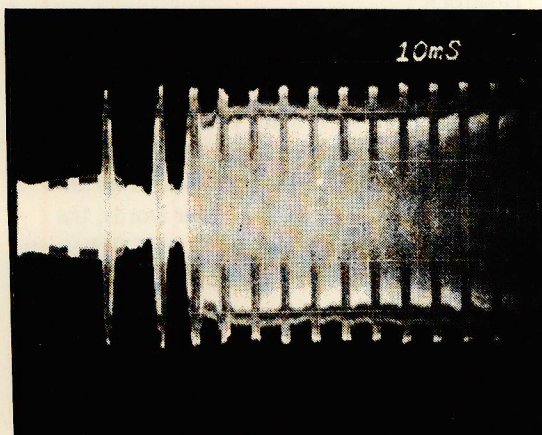

FIGURE 9 HEAD LOAD TIMING
- e. Energize the Head Load solenoid and observe the read signal on the oscilloscope. The signal must be at 50% of full amplitude by 35Msec. Refer to Figure 9.